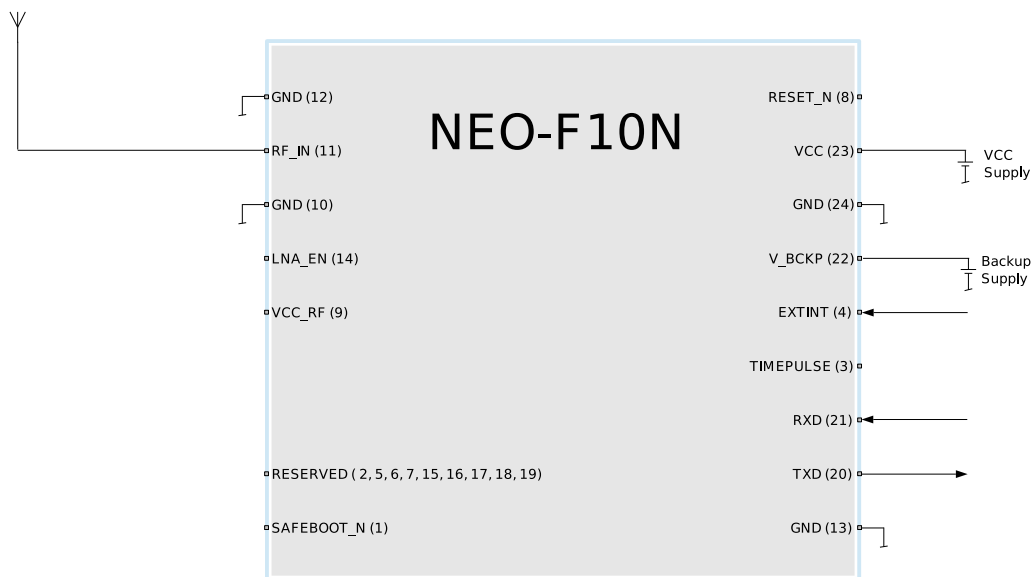

Figure 14: Typical design
- The internal RF front design in the NEO-F10N makes the module suitable for passive antenna designs where external gain is not required. It is important to use a good quality passive antenna to avoid performance degradation. Figure 14 shows a design using a dual band passive antenna with single feed.
- Applications that require maximum sensitivity can integrate an external LNA with very low noise figure (NF). The maximum external gain must not exceed 25 dB. The external LNA can be supplied with the VCC_RF output from NEO-F10N and controlled by the LNA_EN signal, switching off the LNA when entering hardware backup mode, and software standby mode.